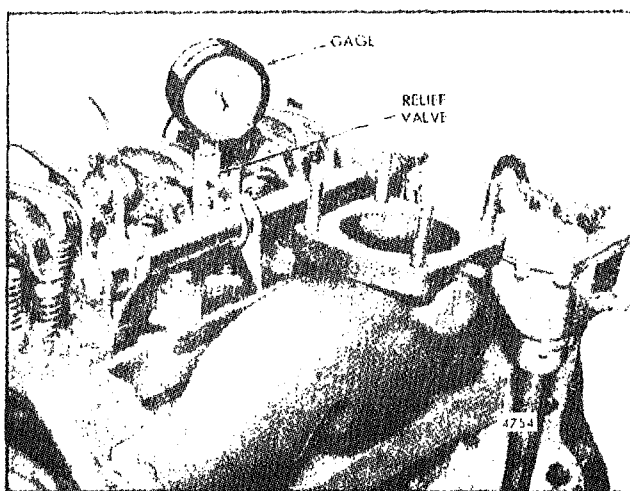

Fig. 1 - Checking Compression Pressure
3. Remove the injector and install adaptor J 7915-02 and pressure gage and hose assembly J 6992 (Fig. 1).